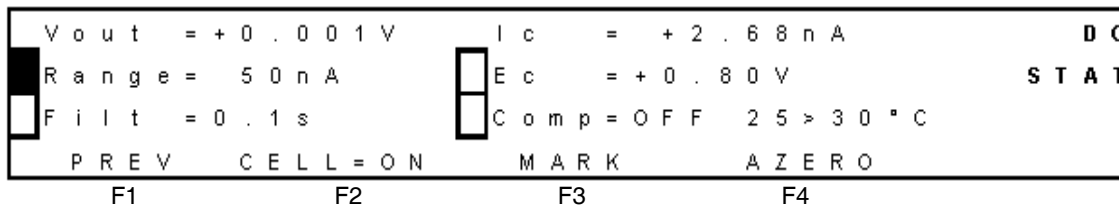

Figure 3-21 DC Stat Screen
- a. Select **F5 NEXT**. The DC Stat screen appears (Figure 3-21).